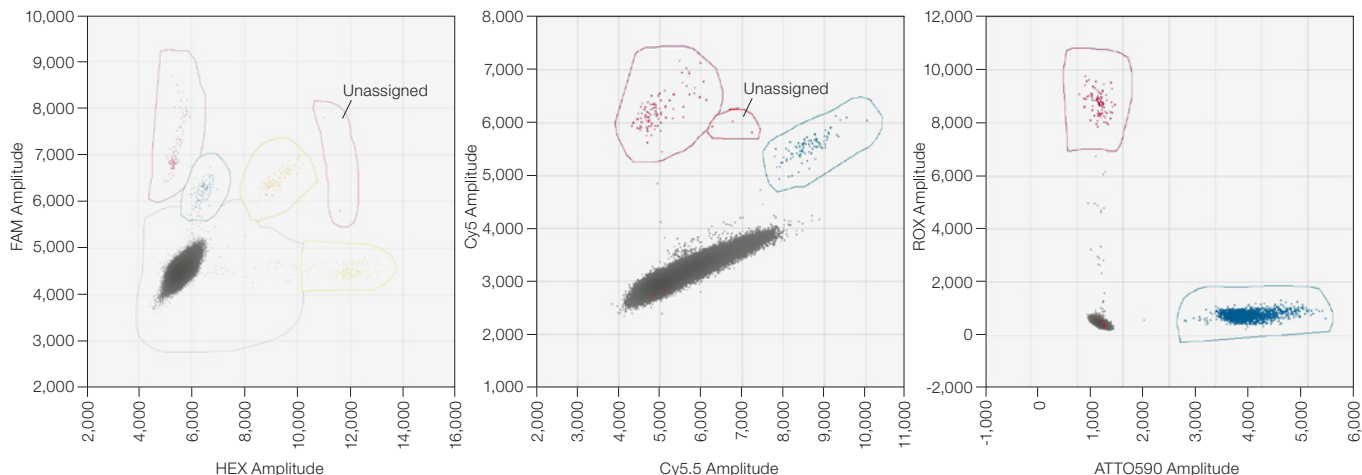

Fig. 10. Examples of unassigned droplets.
6. Droplets with high fluorescence amplitude that are distinct from the dense positive clusters may be left as unassigned, which removes them from analysis. If previously assigned to a cluster, they can be reset by circling the droplet(s) and clicking “Reset Cluster” in the pop-up menu. Unassigned droplets will have a bright red color. See Figure 10 for some examples.